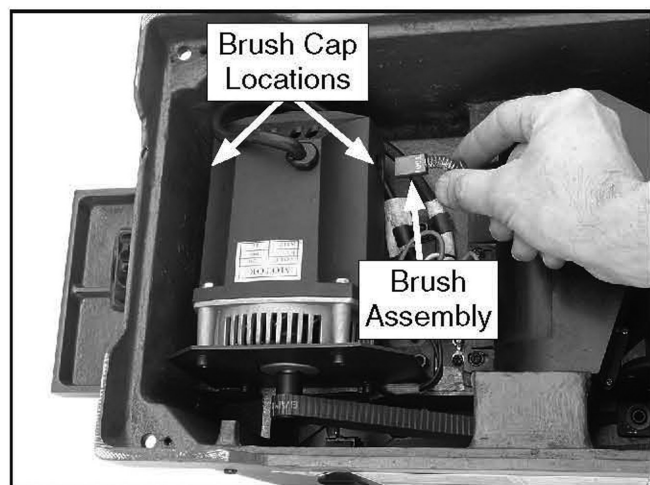

Figure 44. Removing a motor brush.
3. Remove (4) Phillips screws fastening motor cover to jointer base. Lift off cover and set it aside.
5. Use a dime to unscrew the brush caps (see **Figure 44**).